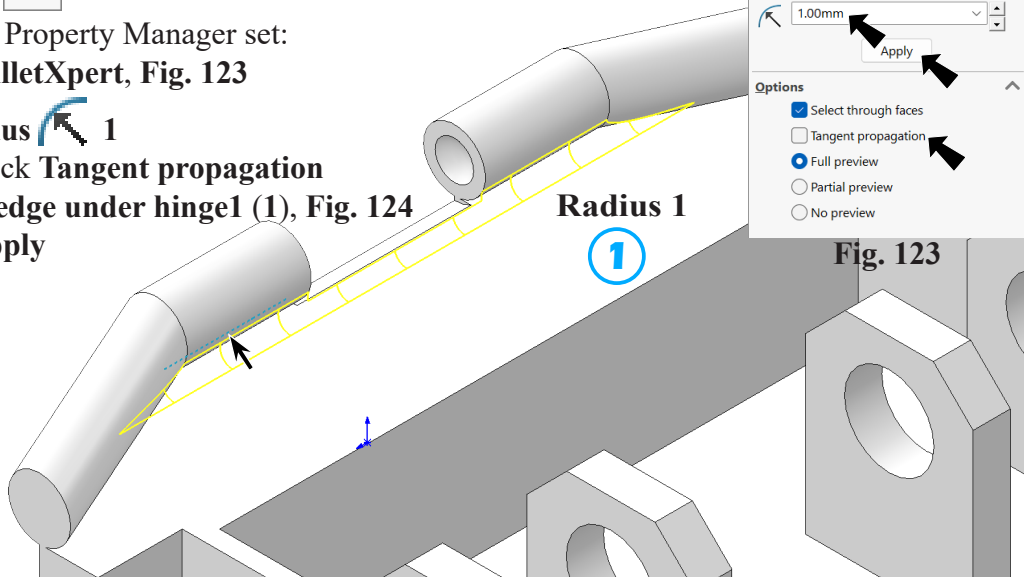

Fig. 123
Step 3. In the Fillet Property Manager set: select **FilletXpert**, Fig. 123
① **Radius**  **1**